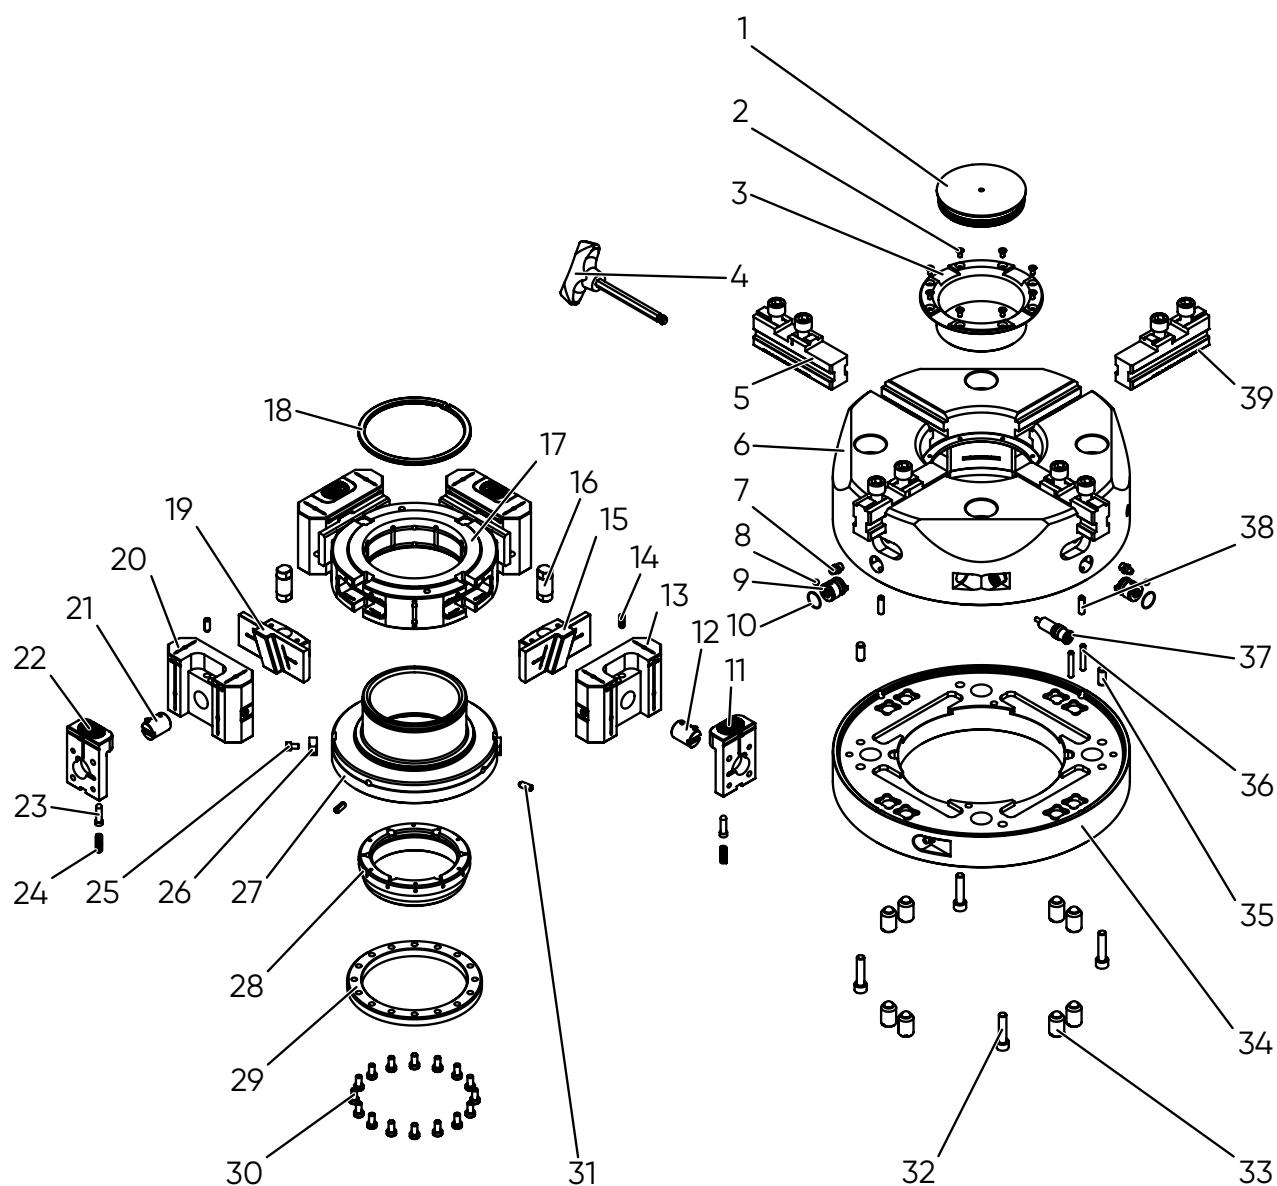

Fig. 8-1: Installing the top jaws
- Step 1** Look for the required spare part in Fig. 8-1 [... ▶ 52].